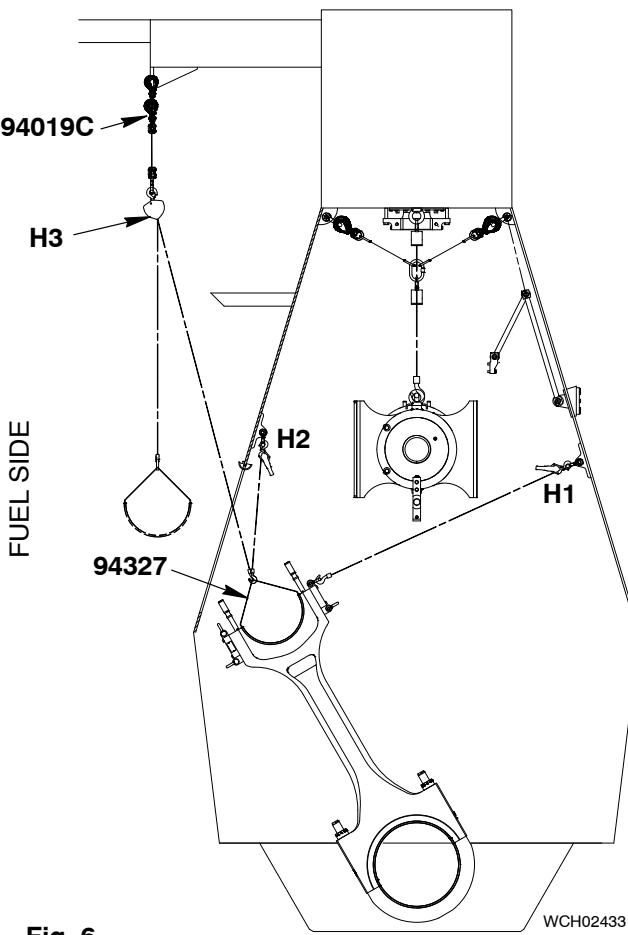

Fig. 6
- 1) Attach the chain (94019C, Fig. 6) to the gallery.
- 5) Attach the chain (94327, Fig. 6) to the manual ratchet (H6) and the four eye bolts in the bearing shell (1).
- 5) Install the four eye bolts (94045-M8) into the bearing shell (2).
- 6) Attach the chain (94327, Fig. 6) to the manual ratchet (H3) and the four eye bolts in the bearing shell (1).